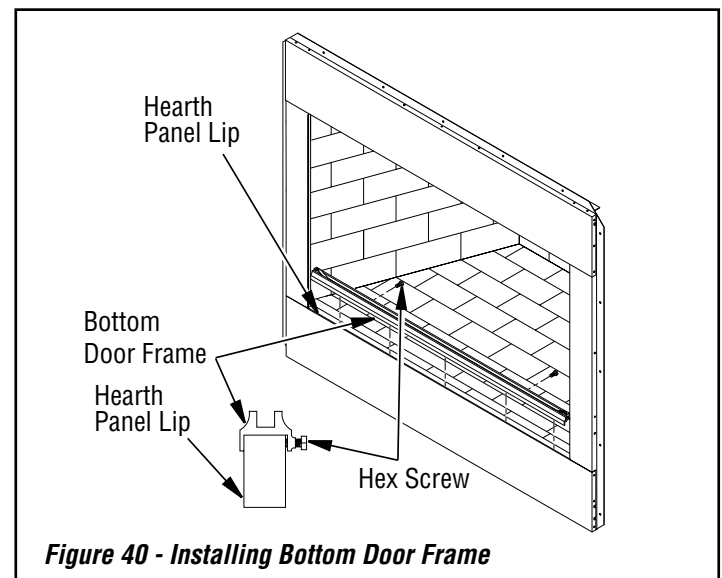

Figure 40 - Installing Bottom Door Frame
3. Place bottom door frame on top of Hearth Panel Lip at front of fireplace (see *Figure 40*).
4. Secure bottom door frame to brick with two hex screws provided as shown in *Figure 40* using a 7/16" open end or adjustable wrench.